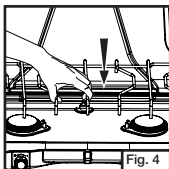

Fig. 4
- Install pot support as shown. (Fig. 4)